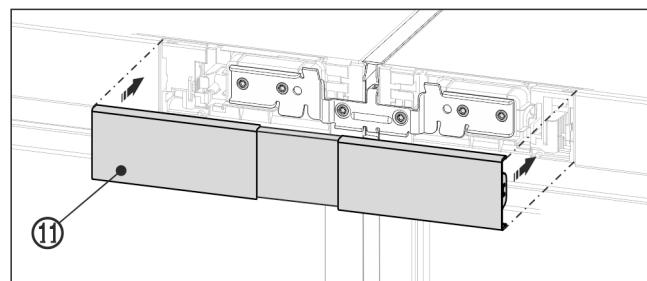

Fig. 19 Example illustration
- ▶ Snap the top cover Fig. 19 (11) onto the still open gap between the two control panel trims. Make sure that the outer sides of the cover form a flush finish with the control panel trims.